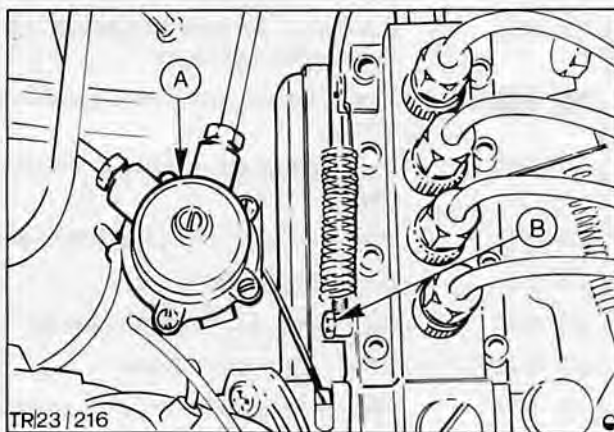

Fig. 35. Fuel injection pump
4. Using the hand priming lever (located on the lower half of the fuel lift pump, Fig. 35) bleed filter by pumping fuel through the bleed bolt until all air is removed. Tighten bleed bolt.
5. Bleed injection pump assembly by loosening bleed bolt on pump, Fig. 35, and manually pumping fuel through bleed bolt.